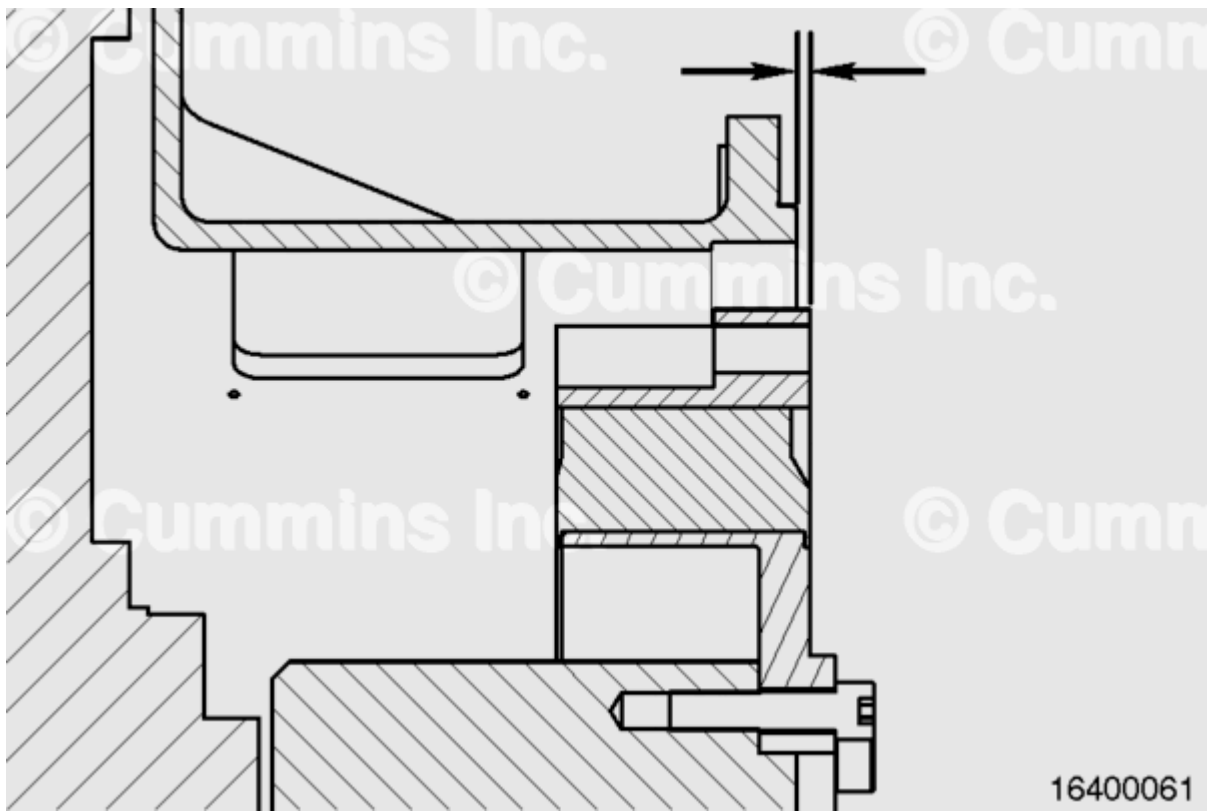

Figure 7: Attachment Nominal Position
- Figure 7 illustrates a representative attachment to the QSK60 SAE 00 flywheel. It illustrates that the ANP is the measured distance between the alternator housing face and the driveplate face.